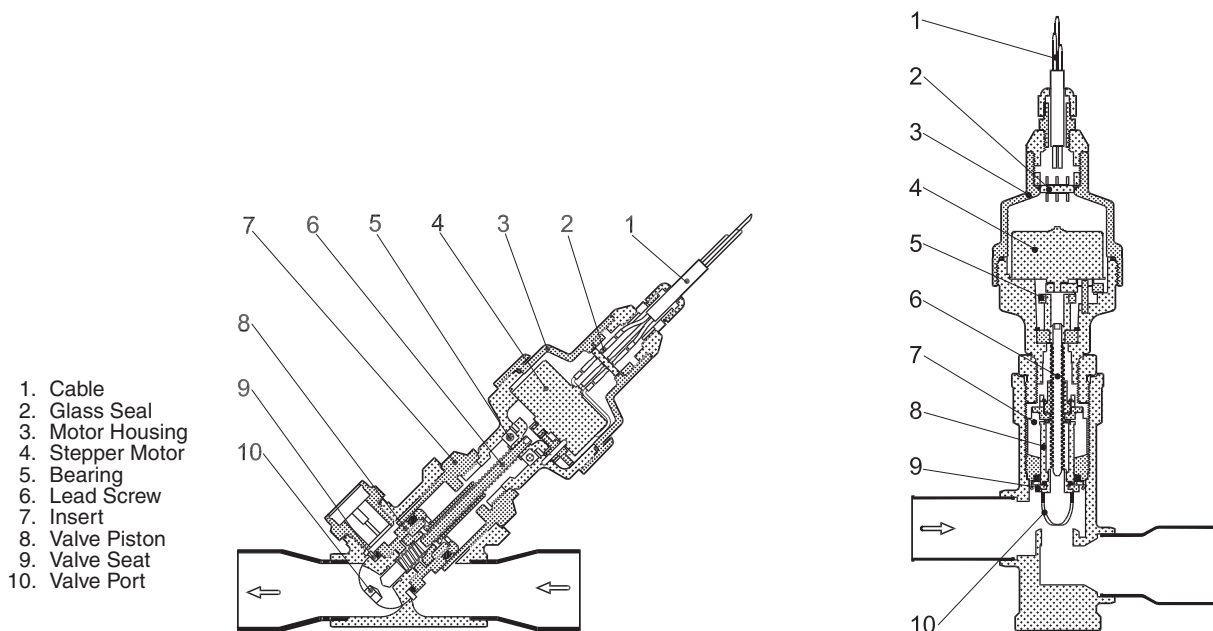

Fig. 50 — Cutaway Views of the Electronic Expansion Valve
Electronic Expansion Valve (EXV) — See Fig. 50 for a cutaway view of the EXV. High-pressure liquid refrigerant enters valve through the top. As refrigerant passes through the orifice, pressure drops and refrigerant changes to a 2-phase condition (liquid and vapor). The electronic expansion valve operates through an electronically controlled activation of a stepper motor. The stepper motor stays in position unless power pulses initiate the two discrete sets of motor stator windings for rotation in either direction. The direction depends on the phase relationship of the power pulses.
3. The expansion valve motor is hermetically sealed inside the top portion of the valve. See Fig. 50. Disconnect the EXV plug. Carefully unscrew the motor portion from the body of the valve. The EXV operator will come out with the motor portion of the device. Reconnect the EXV plug.
4. Enter the appropriate EXV test step under the (***QUIC***) Service Test mode. Locate the desired item **Circuit A EXV Position, *EXV.A*** or **Circuit B EXV Position, *EXV.B***. Change the position to 100%. Observe the operation of the lead screw. See Fig. 50. The motor should be turning, raising the operator closer to the motor. Motor actuator movement should be smooth and uniform from fully closed to fully open position. Select 0% and check open to closed operation. If the valve is properly connected to the processor and receiving correct signals, yet does not operate as described above, the sealed motor portion of the valve should be replaced.